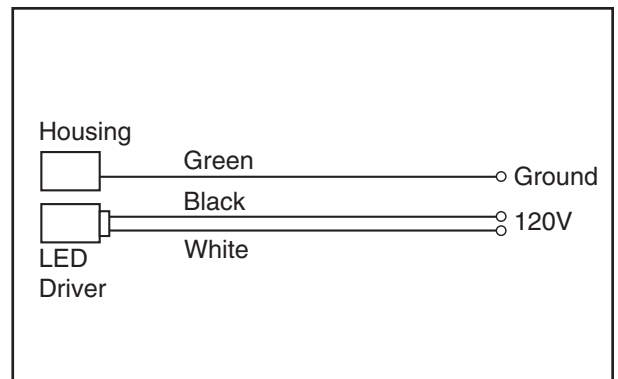

Figure 6
Step 3. Connect supply wires to LED driver wires (black-to-black, white-to-white) with proper size wire nuts (not supplied), so as to cover all bare current-carrying conductors (Fig. 6). Connect supply ground wire (if applicable) to green ground wire affixed to housing.